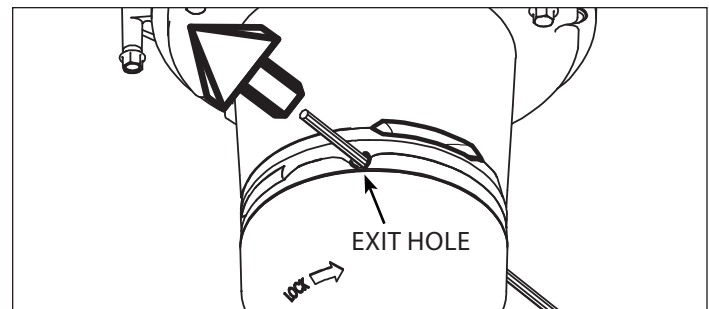

FIGURE 15: Pull old mower line out through exit hole
2. Remove worn mower line from the line retainer by pulling on exposed 1" line from outfeed hole. **SEE FIGURE 15**